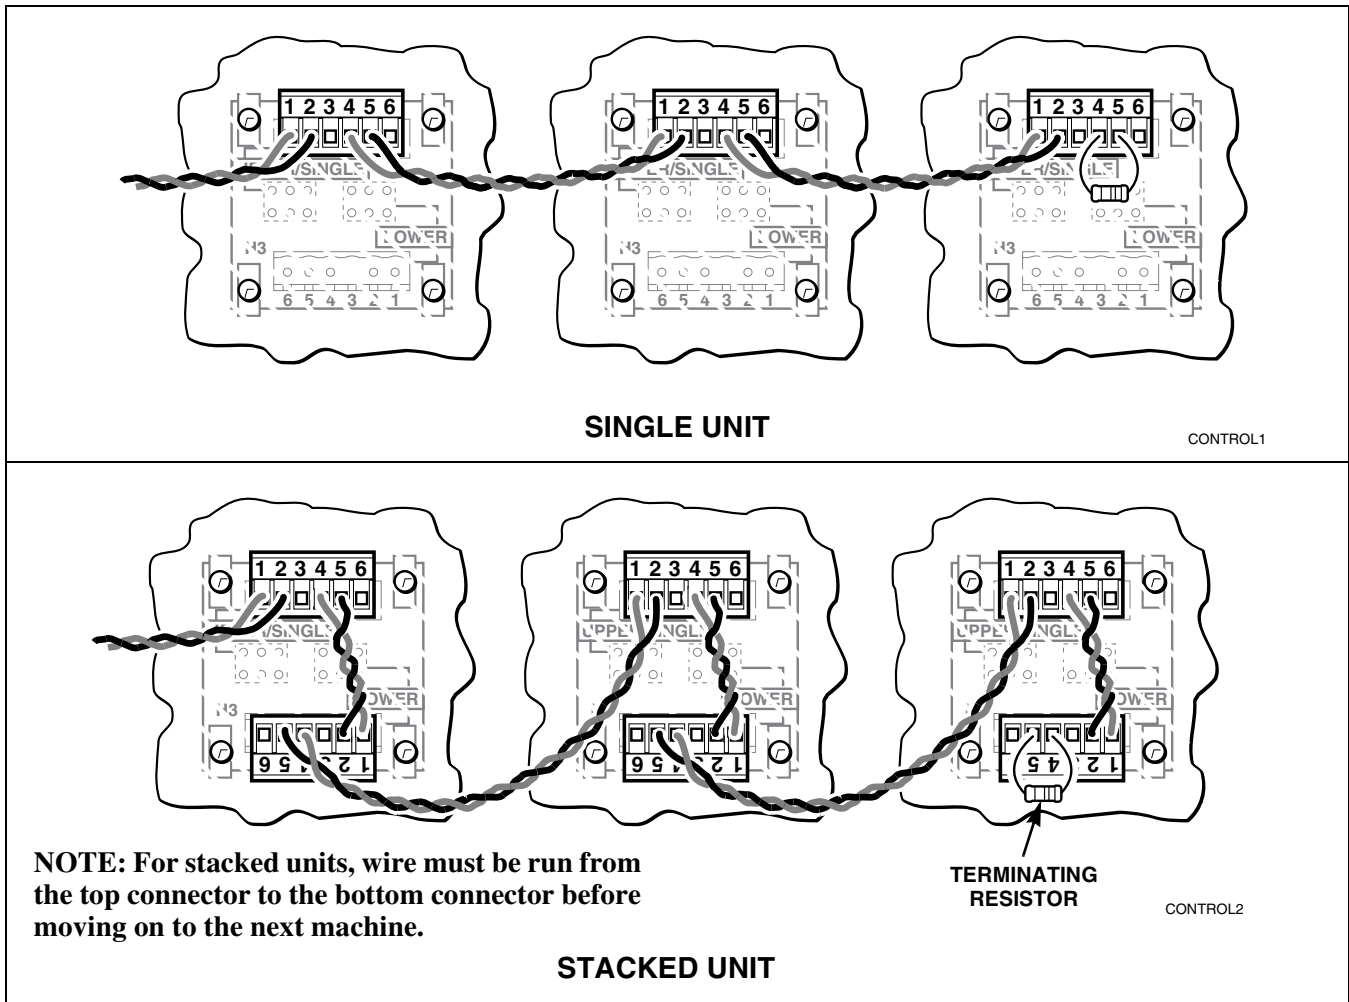

Figure 7
- Cut an ample length of wire to reach the next machine's connector. The wire should be long enough to move the machine for maintenance, but not so long as to interfere with normal operation. refer to *Figure 7*
- Connect the wired connector to the Network Board Header. Refer to *Figure 7*.
- Run the wire to the next machine and follow steps 3-8 until all machines have been connected. Refer to *Figure 7*.
- On the final machine, wires should be run into slots 1 and 2 as on all previous machines. A 120 Ohm, 1/2 Watt terminating resistor should be placed in slots 4 and 5 to terminate the connection at the end of the network. Refer to *Figure 7*.